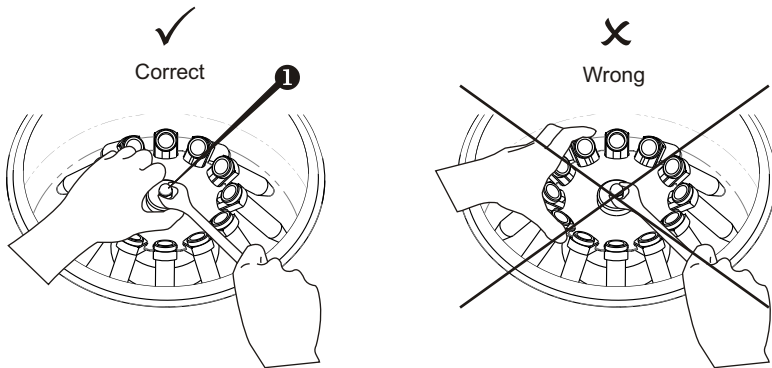

Fig.2 Rotor fixation
- Hold the rotor with one hand and with the help of the supplied wrench (13 mm) turn fixation nut (fig.2/1) counter-clockwise to release the rotor.
Caution! Do not hold the rotor by rings or adapters mounting when mounting and fixing it. Hold the rotor as shown on Fig. 2 (Correct).